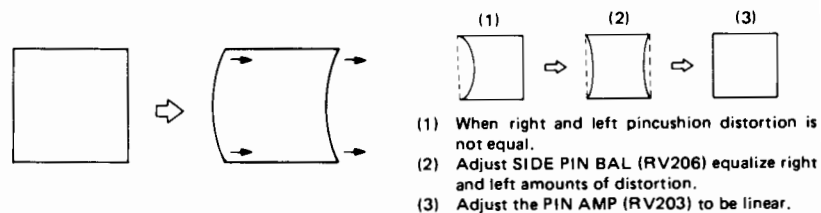

**Figure 6-6. Vertical Balance and Linearity**
- Adjust RV-103 (V-LIN BAL) to equalize the height (vertical dimension) of the squares in the cross-hatch pattern in the upper and lower sections (Figure 6-6).